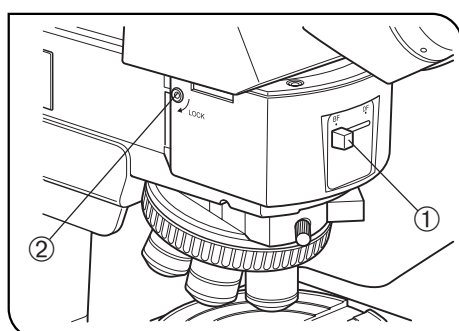

Fig. 24
◎ When the brightfield (BF) light path is selected with the mirror selector knob ①, the ND filter is engaged in the light path by an interlock mechanism to reduce glare during switching from the darkfield (DF) to the brightfield (BF). (Fig. 24)